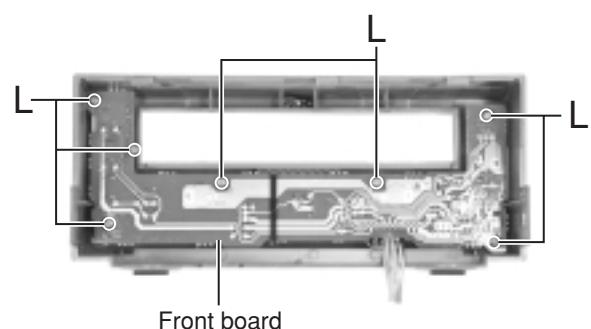

Fig. 15
■ Removing the front board (See Fig.15)